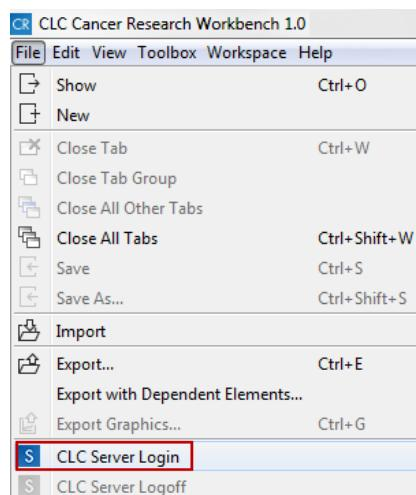

Figure 2.5: Log into the server via "File" in the menu bar.
- The last thing to do is to log into the server from *Biomedical Genomics Workbench*. This is done using the menu bar as shown in figure 2.5: